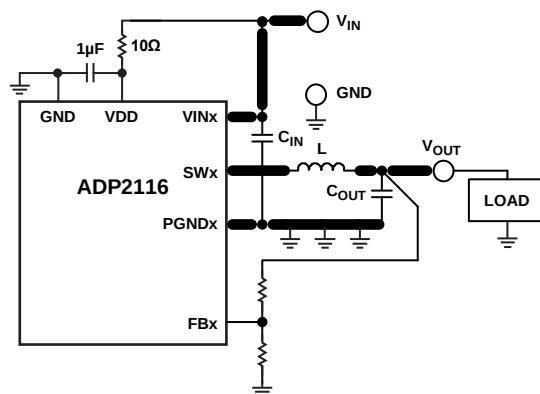

Figure 76. High Current Traces in the PCB Circuit
- Ensure that the high current loop traces are as short and as wide as possible. Make the high current path from C_{IN} through the L, the C_{OUT}, and the power ground plane back to C_{IN} as short as possible. To accomplish this, ensure that the input and output capacitors share a common power ground plane. In addition, ensure that the high current path from the PGNDx pin through L and C_{OUT} back to the power ground plane is as short as possible by tying the PGNDx pins of the ADP2116 to the PGND plane as close as possible to the input and output capacitors (see Figure 76).